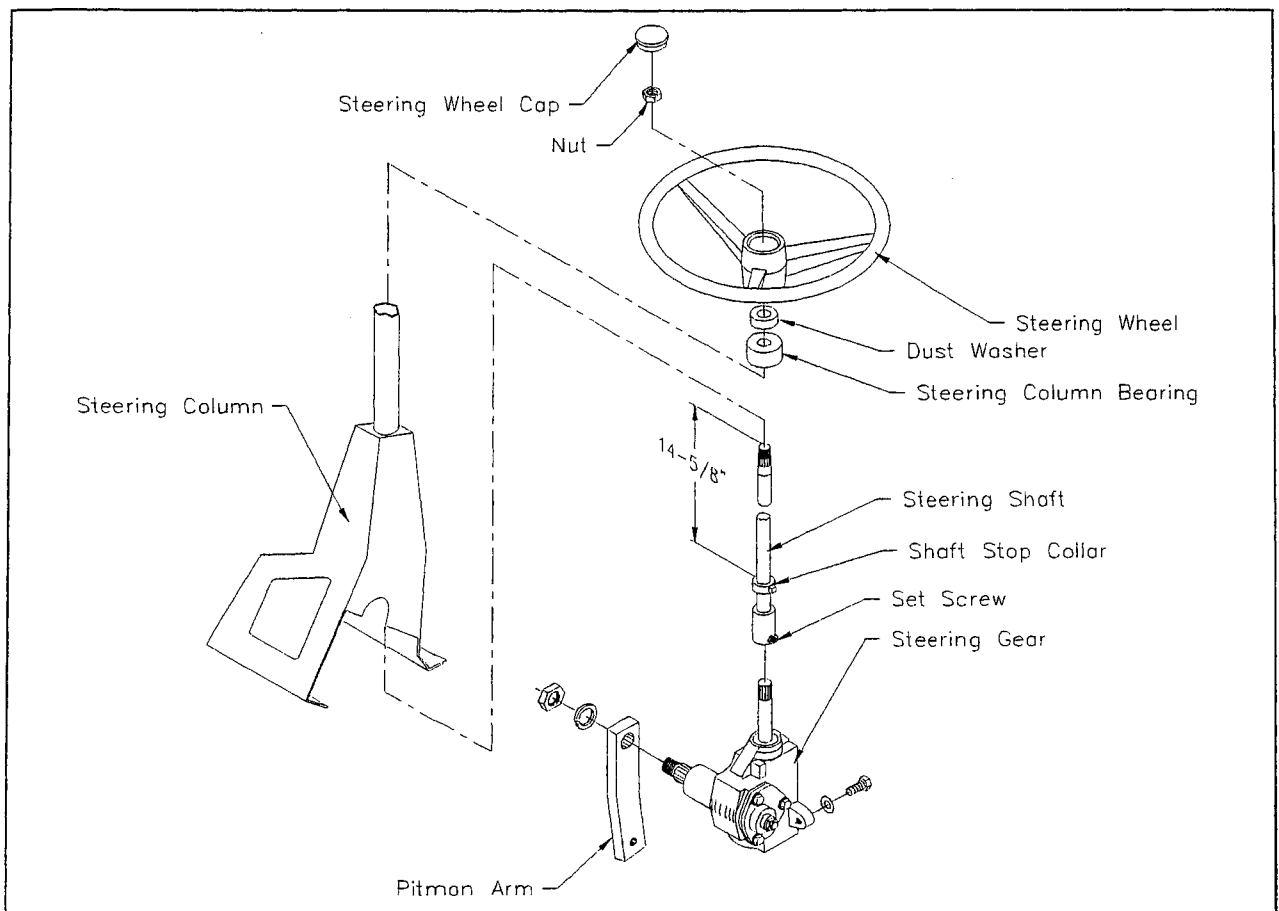

Figure 3-14
To replace components of the steering system, use the following procedure and refer to figure 3-14.
- Install the shaft stop collar onto the shaft and tighten at 14-5/8" from top of steering shaft (see figure 3-14).